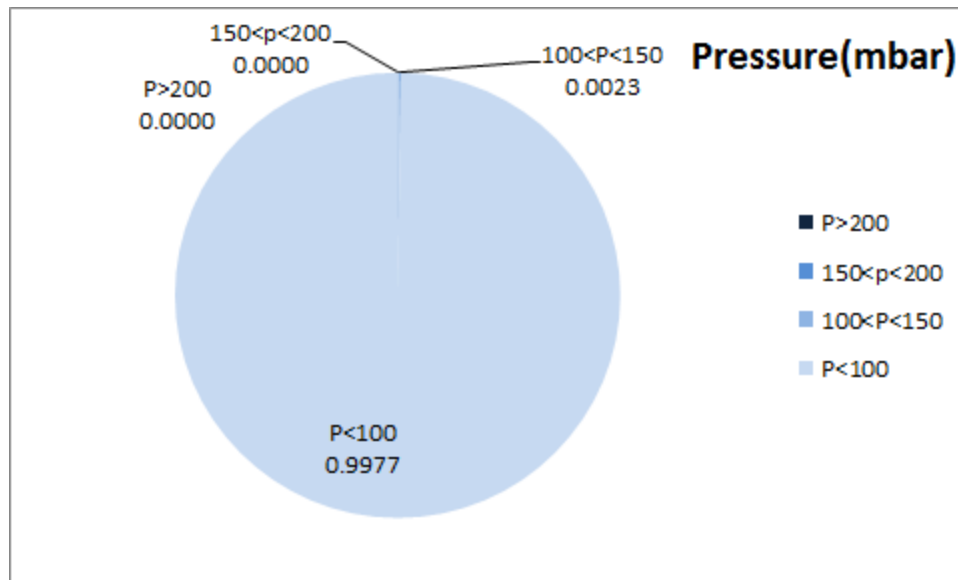

Figure 1- Pressure distribution over the working hours
- As depicted in Figure 1, pressure above 150 can't be observed.